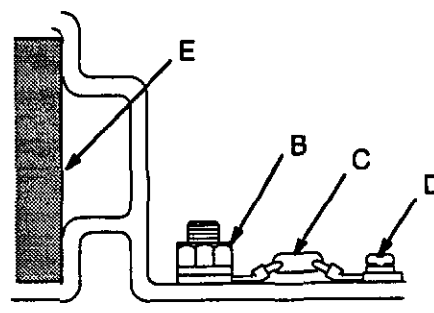

Fig. 36
2. Remove the screw and lockwasher (B) and the nut and lockwasher (D) which hold the capacitor (C) to the brush holder. See Fig. 36.